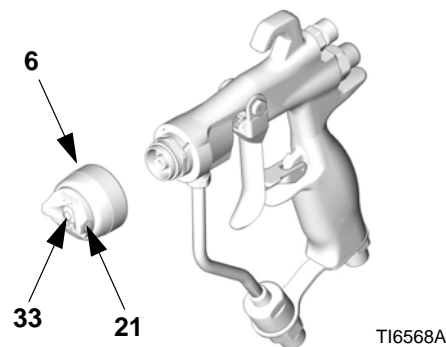

FIG. 35
2. Remove the air cap retaining ring (6), air cap (21), and spray tip (33). See FIG. 35.